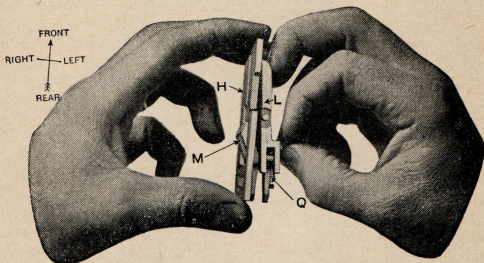

FIGURE 2.
Remove the CROSS BLOCK (A) toward the right and take its GATE PUSHER out of it; FRONT-ABUTMENT SHOE (B); MOLD-BLADE GUIDE (C); SHOE (D) for top MOLD BLADE (E); SHOE (G) for bottom MOLD BLADE (H); MOLD-BLADE STOP (J); LATCH LEVER (K), by pushing up on its lower end to disengage it from its PIN; MOLD BLADES (E) and (H) and MOLD-BLADE CARRIER (L) to the rear keeping them pressed firmly against their bottom bearing while sliding them to rear to prevent injury to NICK PIN; top MOLD BLADE (E) from MOLD-BLADE CARRIER (L) by lifting top BLADE straight up; and bottom MOLD BLADE (H) from MOLD-BLADE CARRIER (L) as shown in Fig. 2, by pushing forward on left end of LATCH (M) to release BLADE.
Assemble the bottom MOLD BLADE (H) with the MOLD-BLADE CARRIER (L) as shown in Fig. 2. Note that the left end of the LATCH (M) is pressed forward just enough to slip the MOLD BLADE into position over the front end of the LATCH. Be sure to make the bottom surfaces of BLADE and CARRIER flush with each other.